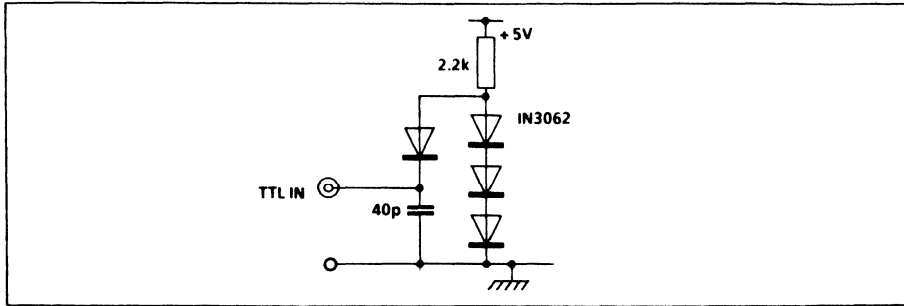

Fig.7 Equivalent TTL load
- See Fig.7 for equivalent TTL load.